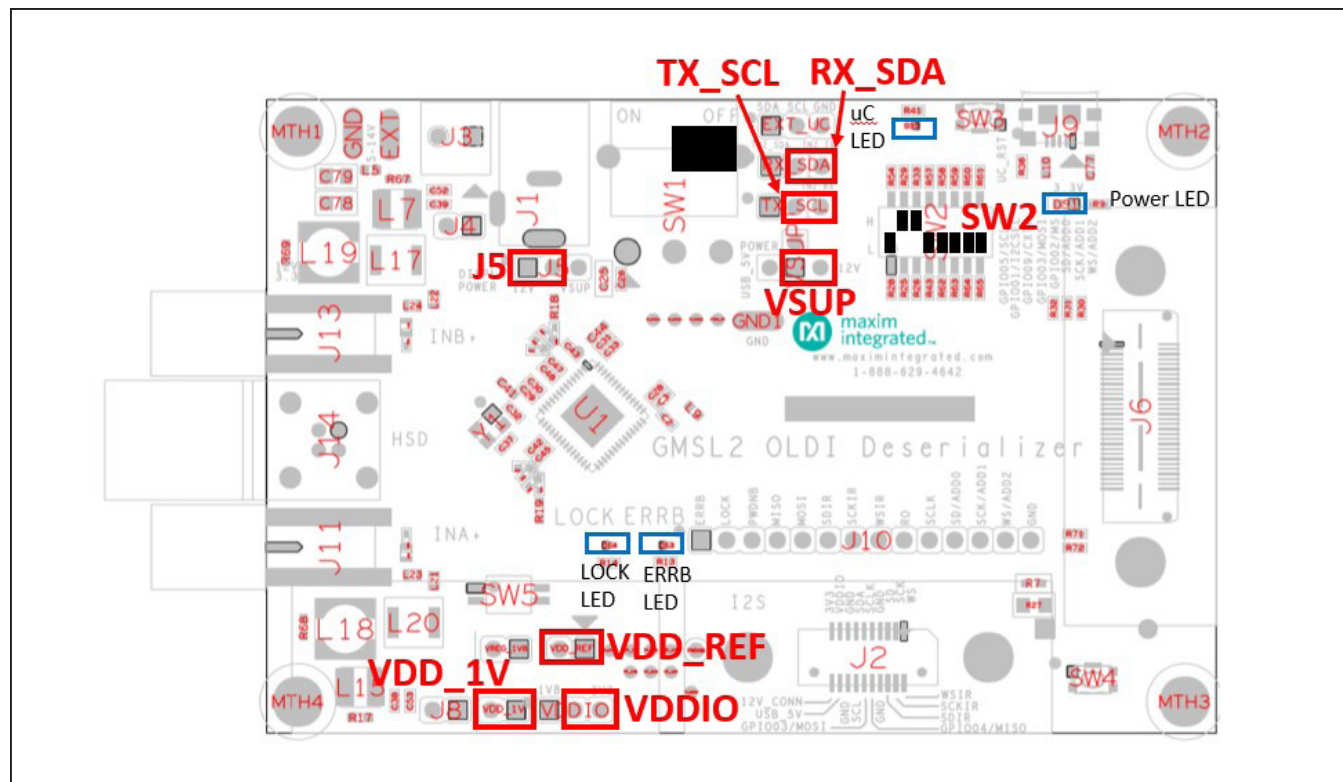

Figure 3. Deserializer Evaluation Board Default Jumper and Switch Positions
- 2) Verify that the on-board jumpers on the deserializer board are in their default positions (Figure 3) with SW1 off.
- 3) Configure SW2 as shown in Figure 3 to set deserializer address to 0x90, COAX mode, and I²C control.